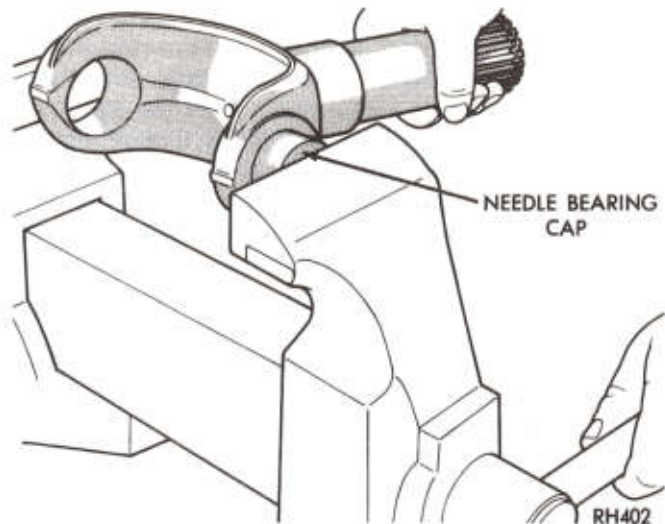

Fig. 9—Replacing Bearing Caps
(1) Insert needle bearing and cap assembly in one ear of yoke.
(2) Place yoke in vise (Fig. 9) and press needle bearing cap into proper position. Install snap ring.
(3) Remove yoke from vise and work one arm of cross into it. Insert opposite bearing cap by hand and